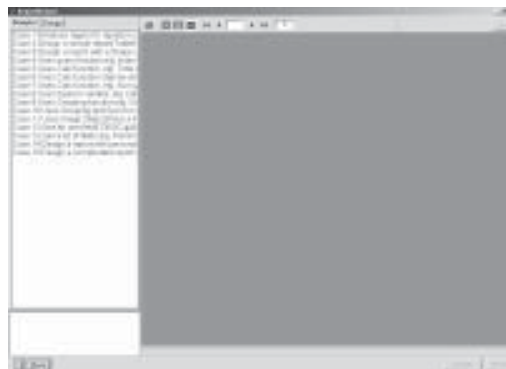

**Fig. 8-17 Preview the Report**
4. Preview the Report: Select and click the page key **Preview** as in Fig. 8-16. And the diagram as in Fig. 8-17 will be displayed.